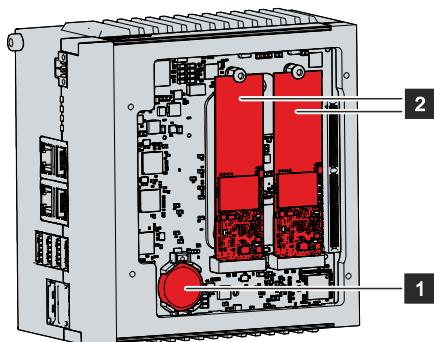

Fig. 19: C6030 \_Battery and storage media
You now have access to the battery (1) and storage medium (2) (see Fig. 19).